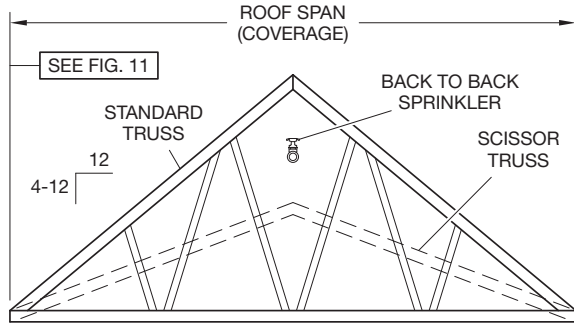

FIGURE 1
- (a) The BB and SD roof span is measured horizontally (not along the slope) as shown in Figure 1 and 2.